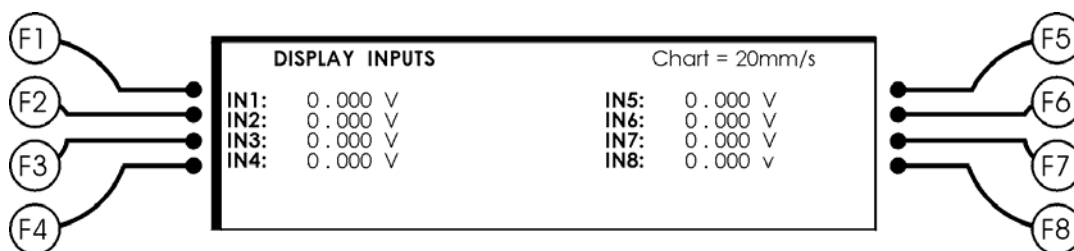

Figure 7.2. Display inputs
- F1 Key F1 activates the 'display inputs' screen. This screen continuously monitors the input values of each of the eight channels. Figure 7.2 gives an example.